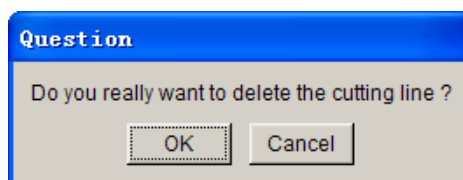

Figure 8.2.90 Confirmation dialog box
**DELETE:** The user may delete current defined cutting line. The program displays a confirmation dialog box as shown in Figure 8.2.90.